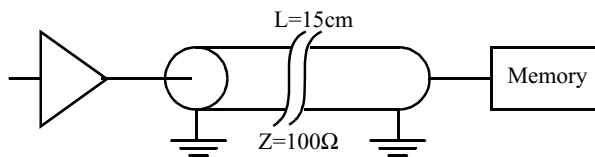

Figure 0.3 The driver, the connecting copper wire and the memory block being accessed.
5. [M, None, 4.x]To connect a processor to an external memory an off-chip connection is necessary. The copper wire on the board is 15 cm long and acts as a transmission line with a characteristic impedance of 100Ω (See Figure 0.3). The memory input pins present a very high impedance which can be considered infinite. The bus driver is a CMOS inverter consisting of very large devices: $(50/0.25)$ for the NMOS and $(150/0.25)$ for the PMOS, where all sizes are